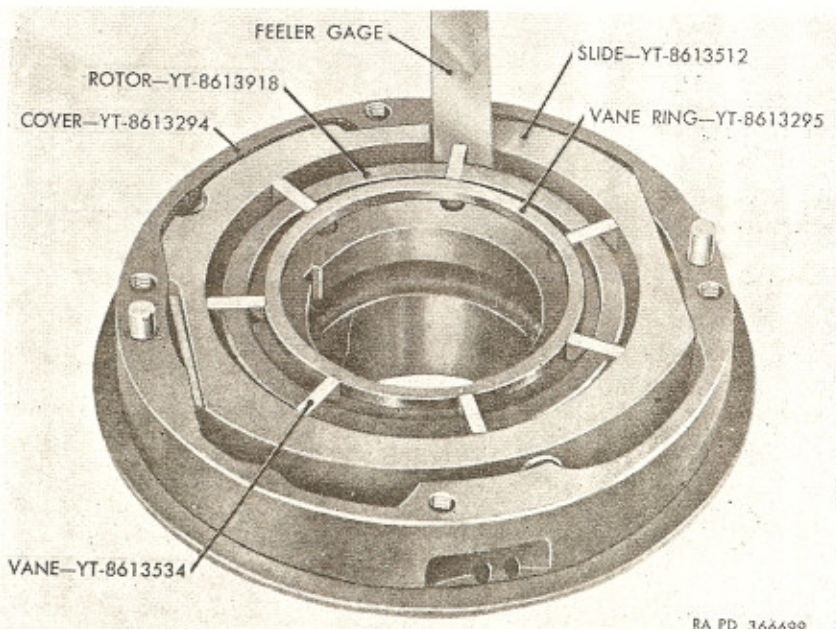

Figure 92. Checking clearance between oil pump vanes and slide.
f. Install seven pump vanes (E) in pump rotor slots. Install second vane ring (D) in pump rotor.
g. Check clearance between pump vanes and pump slide, using feeler gage (fig. 92). With vanes contacting slide, clearance should be 0.000 to 0.003 inch.